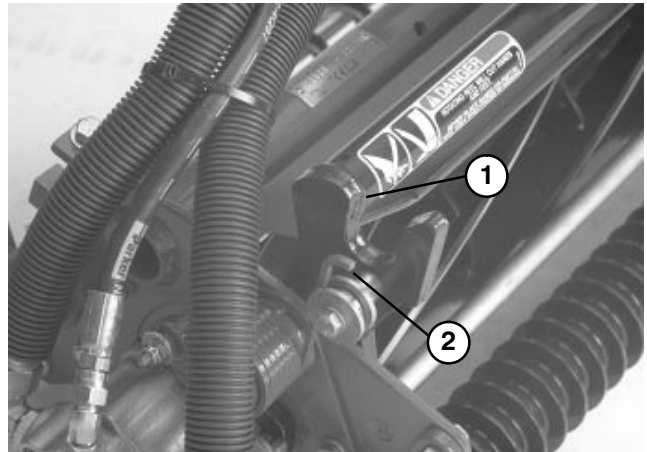

Figure 10
and (3) R.H. springs. Longer leg of spring is to be positioned forward as shown in Fig. 10.